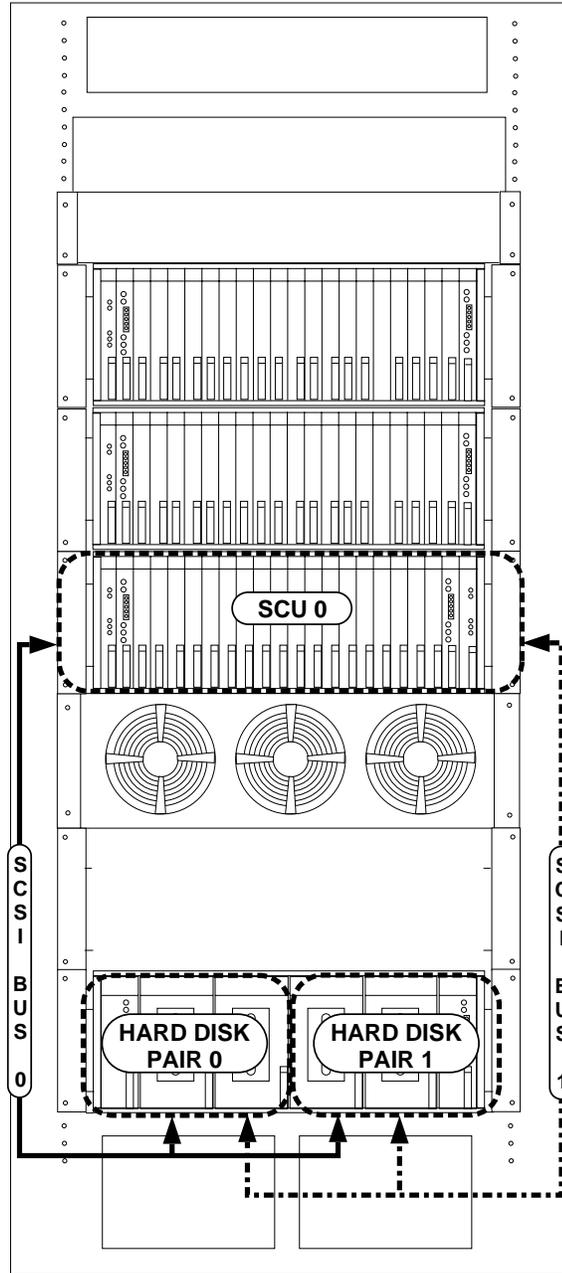

Figure 2. Hard Disk to SCU Connections in the SCC Cabinet
11. Identify the hard disk circuit pack to be replaced. Using Figures 2 and 3, identify the bus number of the disk that is **NOT** being replaced. Record this information for use in Step 17.
WARNING: *It is extremely important that the correct SCU number, disk pair number, and disk bus number be entered in the above input message. An error in this input message could corrupt data on other disks. Hard disk pairs, their associated Service Circuit Units (SCUs), and Small Computer System Interface (SCSI) bus connections are shown in Figures 2 (SCC frame) and 3 (SCU frame).*